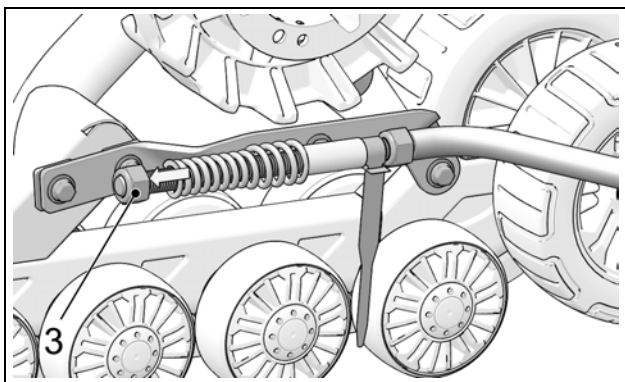

Figure 12
- Loosen nut (3) compressing stabilizing rod spring. See Figure 12.